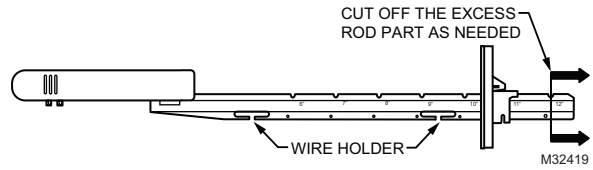

Fig. 7. Sensor wire routing and excess rod removal.
6. Route the sensor wiring along the rod and through the gasket material to maintain the seal with the duct. Use the cutouts on the bottom of the rod to securely route the sensor wiring as illustrated in Fig. 7 on page 4.
9. As necessary, you can cut off the excess length of the rod. See Fig. 7 on page 4.